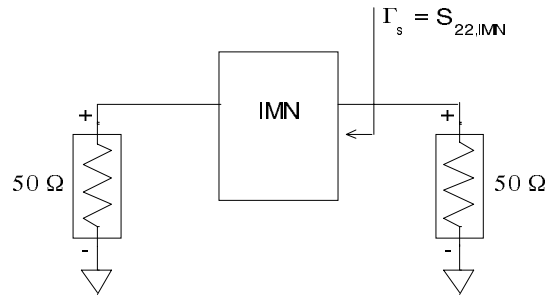

Figure 5: IMN test circuit
- Figure 5 shows the test circuit you need to construct in order to optimize the IMN.
- On the output port of the IMN, the required reflection coefficient is Γ_{Ms} , which has a specific magnitude and phase. For the circuit in Figure 5, notice that by optimizing the value of S_{22} (i.e., $S[2,2]$) at the design frequency, you are also tuning the value of Γ_{Ms} as well.
- The circuit required to find Γ'_s versus the frequency is identical to the circuit in Figure 5. Hence, you have already collected the necessary data (S -parameters from 0.9 GHz to 1.1 GHz). The Γ'_s vs f data are stored in the DS_IMN dataset.